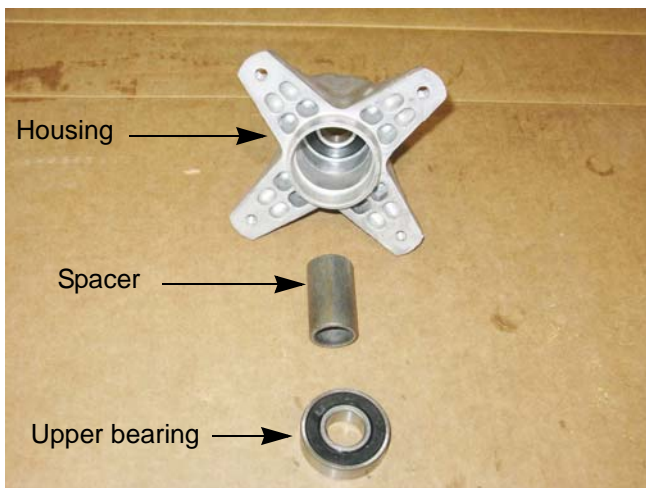

Figure 7.21
5. Remove the spacer. See Figure 7.21.